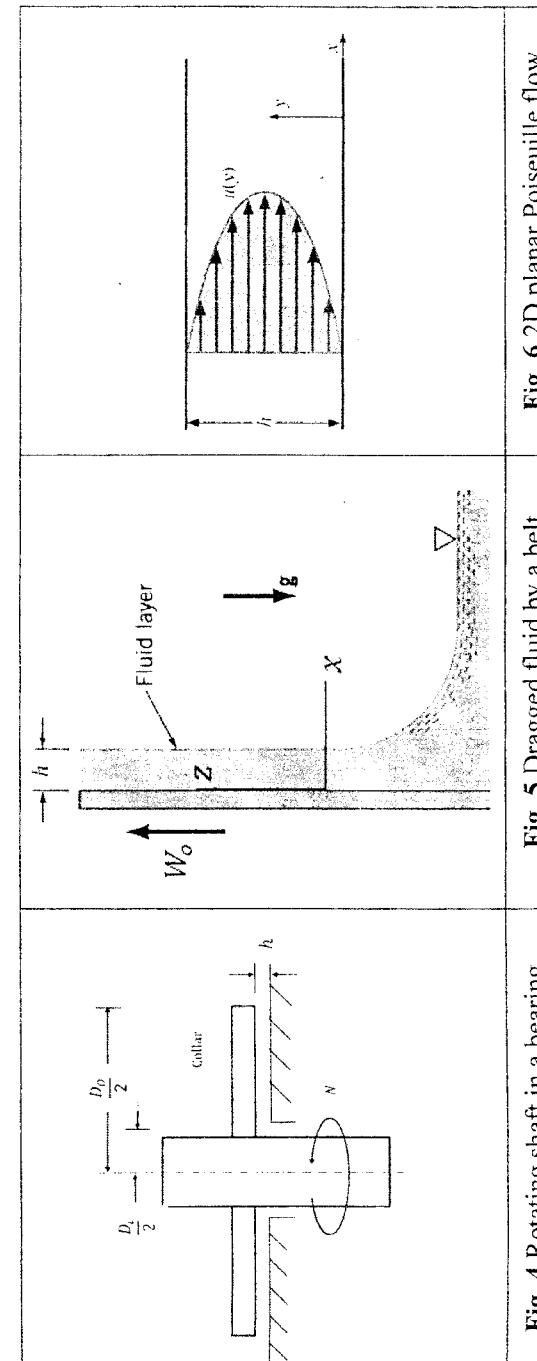

Fig. 6 2D planar Poiseuille flow
2. Consider the fully developed two-dimensional planar Poiseuille flow (flow between two infinite fixed parallel plates), see Fig. 6. The velocity distribution is given by: